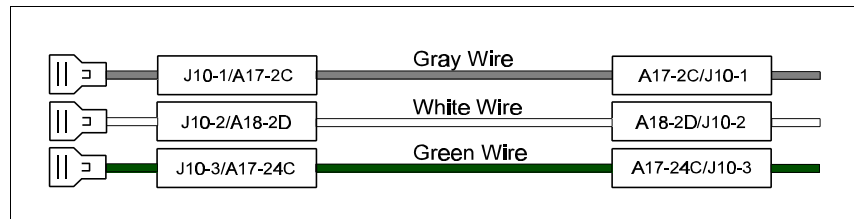

Figure 3 UPS Filter Wiring
6. Supplied in the FMK, cut 2-foot lengths each from the gray, white, and green wires. Apply the wire markers and receptacle contacts to the 2-foot lengths as illustrated in figure 3.